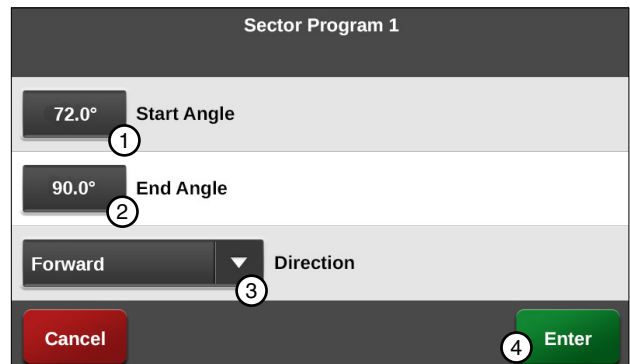

Figure 147-3 1. Start Angle
3. Select the **Start Angle** field. Refer to Figure 147-3.